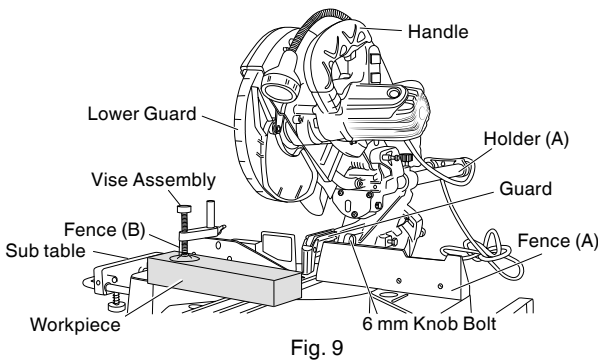

Fig. 9
Holder (A) has a guard (see Fig. 9) into which a groove must be cut when using the tool for the first time. Loosen the 6 mm knob bolt to retract the guard slightly.